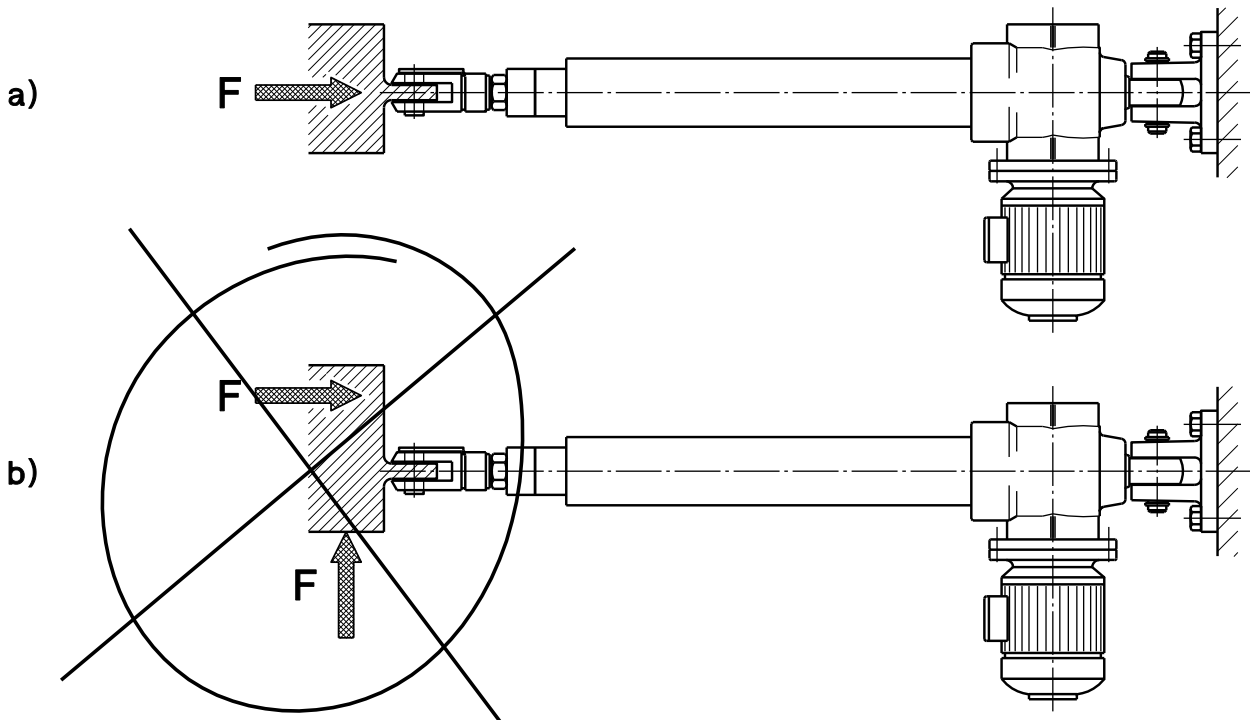

Figure 1.2: Load on actuator: a) correct; b) non correct
1.1.3. Fit the actuator to the plant in order to have **ONLY** axial load applied to the actuator (see Fig. 1.2). **RIGHT WORKING OF THE ACTUATOR AND PLANT CAN NOT BE GUARANTEED IF SIDE OR NOT AXIAL LOAD ARE APPLIED TO THE ACTUATOR.**